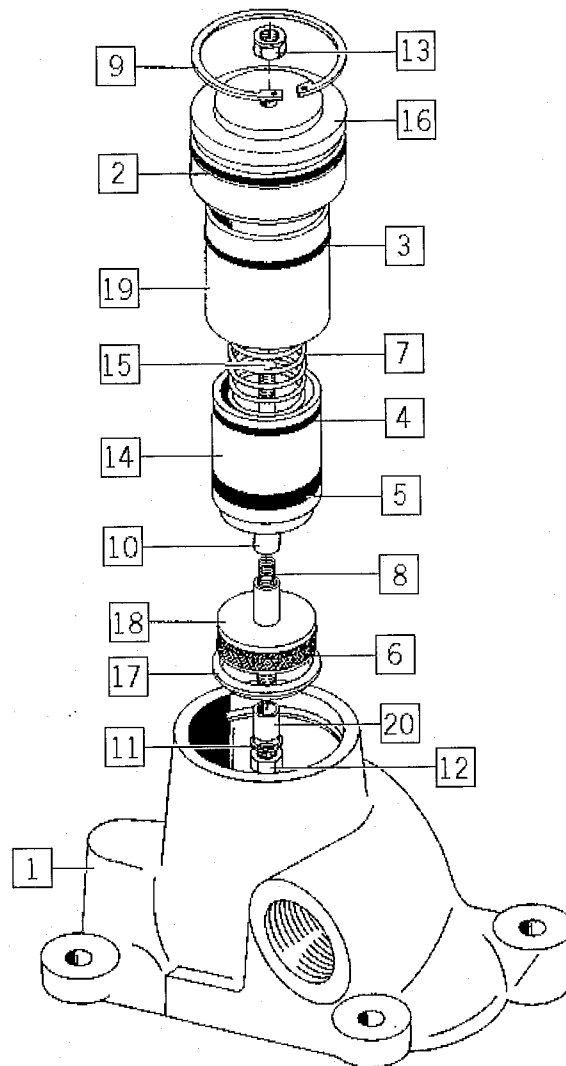

Fig. 5-6 Discharge Valve
1. Install a new seal kit in the discharge valve (1). See fig. 5-6.